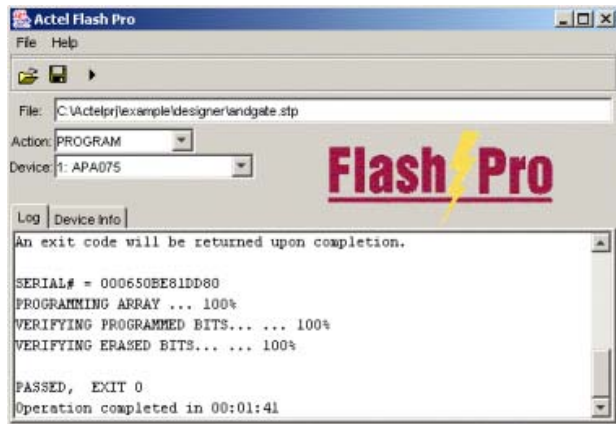

Figure 2-36. Successfully Programmed Device
4. Make the required selections and click **Execute** to start programming. The progress of the programming action displays in the **Log** window. The message **Exit 0** indicates that the device has been programmed successfully, as shown in Figure 2-36.